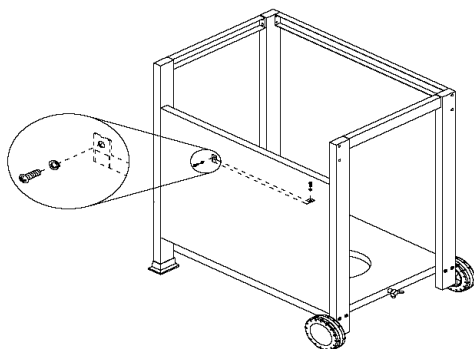

Figure 6
Assemble gas tank supporting to front panel & bottom panel. On front panel, use screws with (1) 5/32 x 3/8" Phillips head screw and (1) 5/32" flat washer. On bottom panel, use (1) 5/32 x 3/8" Phillips head screw and (1) 5/32" flat washer (Fig.6)